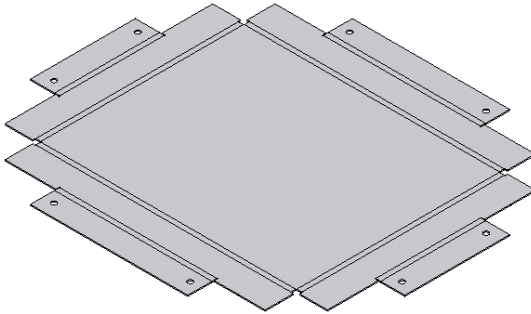

Figure 16-165 Flat pattern of the model
- Create the flat pattern of the sheet metal component, refer to Figure 16-165.
The flat pattern of the model is displayed in Figure 16-165.